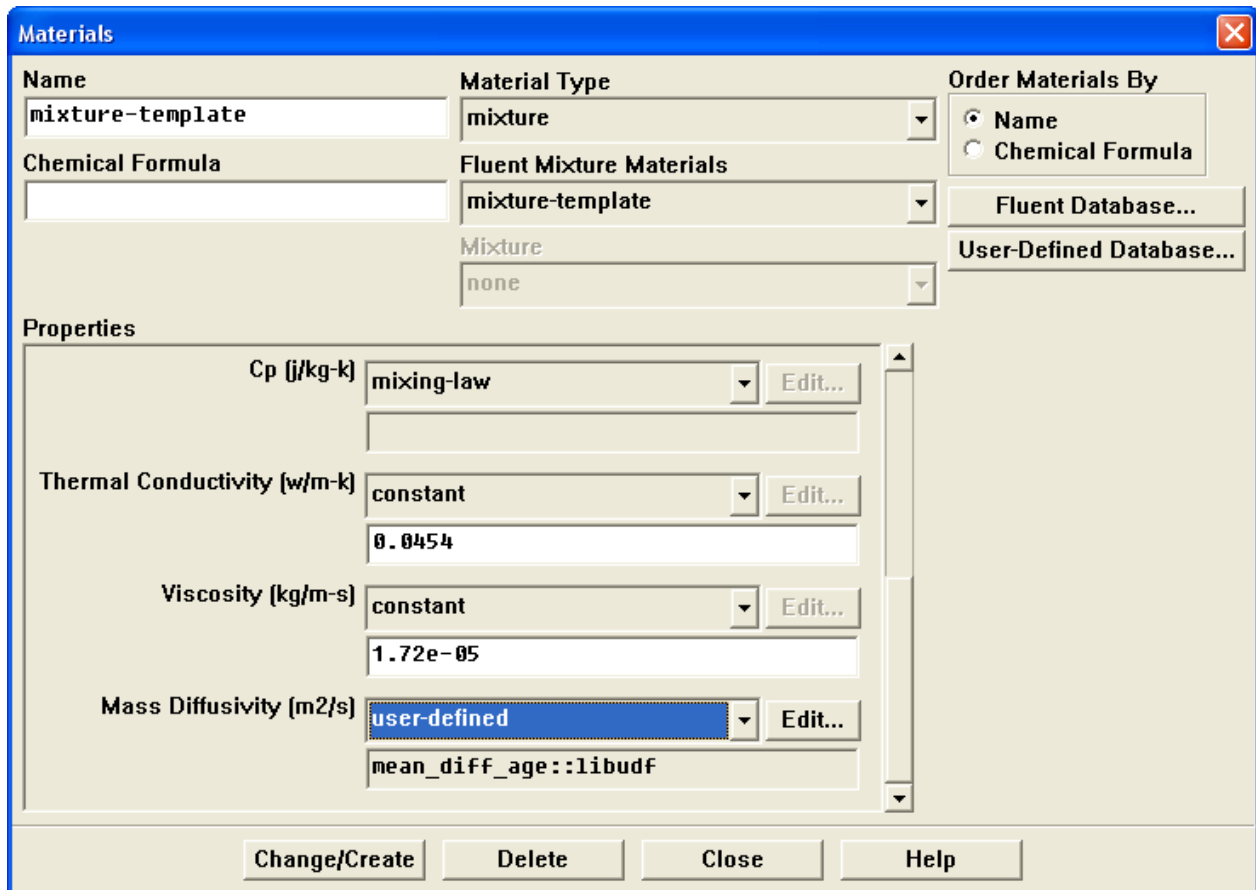

Figure 6.2.3: The Materials Panel
1. To hook a mass diffusivity UDF for the species transport equations, choose user-defined from the drop-down list for Mass Diffusivity (Figure 6.2.3).